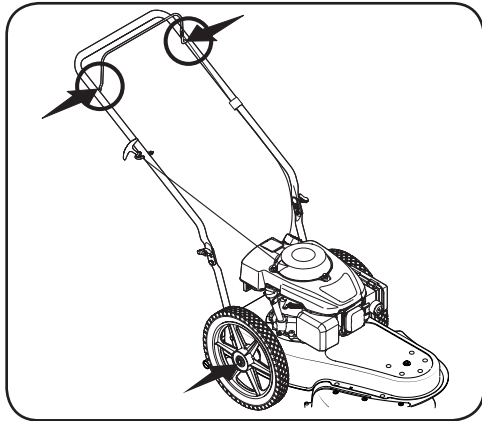

Figure 5-1
1. Lubricate pivot points on the control lever at least once a season with light oil. This control must operate freely in both directions. See Figure 5-1.
2. Lubricate the wheels at least once a season with light oil (or motor oil). If wheels are removed for any reason, lubricate surface of the axle bolt and inner surface of the wheel with light oil. See Figure 5-1.